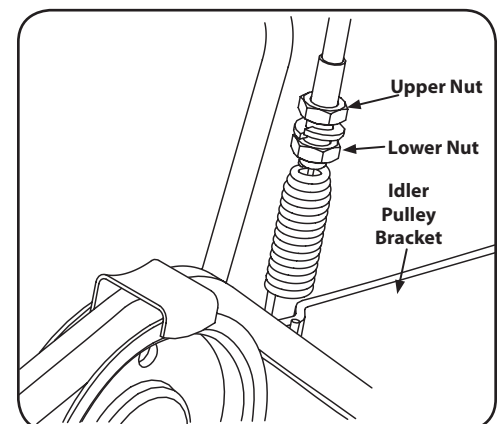

Figure 5-4
2. Locate the spring at the end of the cable. See Figure 5-4.